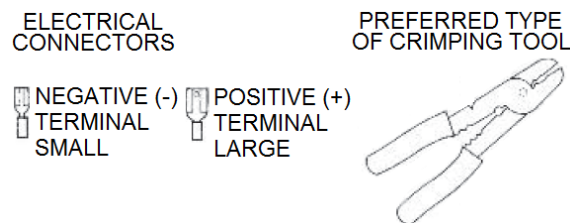
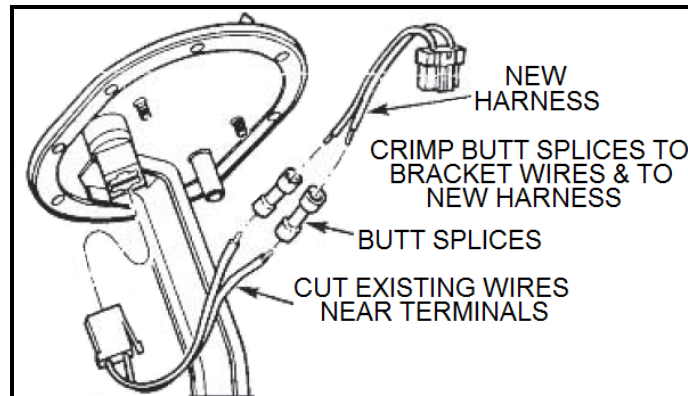

Figure 5
Figure 7
- B. For some vehicles, the pump outlet is sealed with an O-ring inside a tube welded to the pump bracket. Pull the pump out of the tube. Remove the cap, O-ring, and spacer from the pump (Fig. 5). **Keep the spacer.** Place the spacer on the outlet fitting of the new pump. Then place the new O-ring and cap from the installation kit. Slide the pump outlet into the bracket tube. Using the new or existing fuel pump isolator, slide the pump and isolator assembly into the bracket and securely tighten the screw that attaches the L-shaped bracket to the pump bracket, or fit the isolator tabs into the matching openings on the pump bracket.
2. **CRIMP ON NEW TERMINALS** - Some pumps will require cutting the wires near the existing connector or terminals and stripping 1/4" of insulation from the wires. Then, crimp on new terminals using the recommended tool shown in Fig. 5. If there is a protective rubber boot over the terminals, it can be removed and discarded.
4. **BUTT SPLICE NEW WIRING ASSEMBLY** - Some pumps will require the removal of a protective rubber boot over the terminals, cutting the wires near the existing connector or terminals, and stripping  $\frac{1}{4}$ " of insulation from the wires. Using the recommended tool shown in Fig. 5, crimp the butt splices to the bracket wires and to the new wiring assembly, making sure proper polarity is maintained (Fig. 7). Snap the electrical connector into the pump.